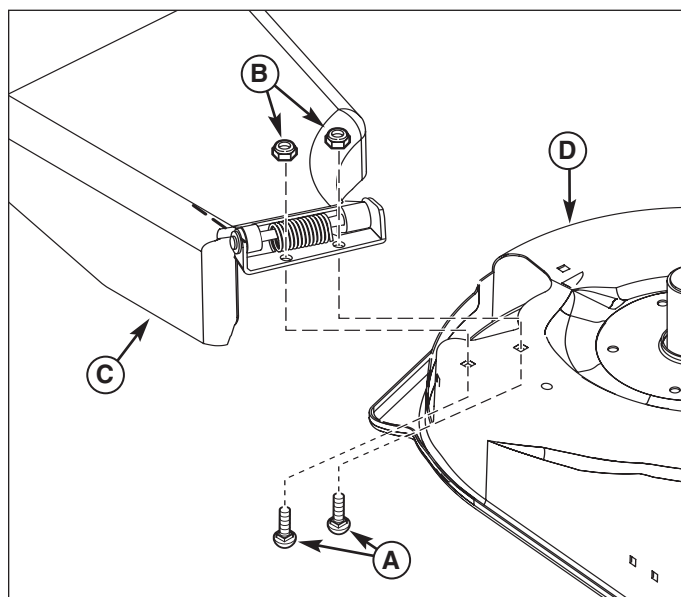

Figure 2. Remove Deflector & Hinge Assembly
1. Remove the carriage bolts (A, Figure 2), locknuts (B) and deflector & hinge assembly (C) from mower deck (D).